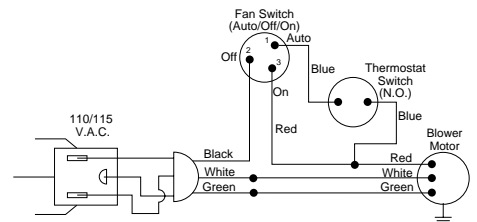

Figure 20 - Wiring Diagram For Blower Accessory Built-In Installation
3. A licensed electrician must follow the wiring diagram to connect incoming electrical supply to fan kit wiring harness (see Figure 20).